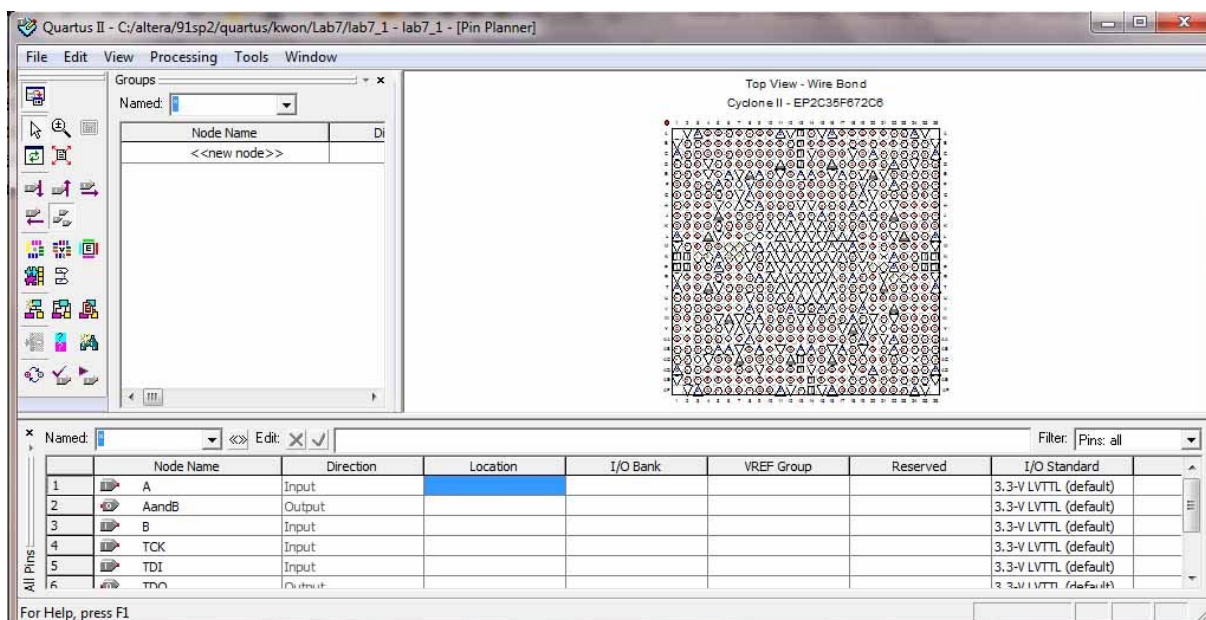

Figure 7-8
3. Now, we will assign specific pin numbers and recompile the lab7_1.bdf file before programming the Cyclone II FPGA. Choose **Assignment > Pin Planner** (Figure 7-8) and assign the pin numbers for inputs and outputs under the **Location** column. The Quartus II Compiler was free to choose any pins on the selected FPGA to serve as inputs and outputs. However, the DE2 board has hardwired connections between the FPGA pins and the other components on the board. We will use two toggle switches, labeled SW1 and SW0, to provide the external inputs, A and B, to our example circuit. We will connect the output, AandB to the green light-emitting diode labeled LEDG0 (see Table 7-1). When you assign the pin numbers, you can type number in the blank and press **Enter** or double-click it and select the pin number under the **Location** column (See Figure 7-9). If you want to use other toggle switches and LEDs, please see the DE2 User Manual for other pin assignments.